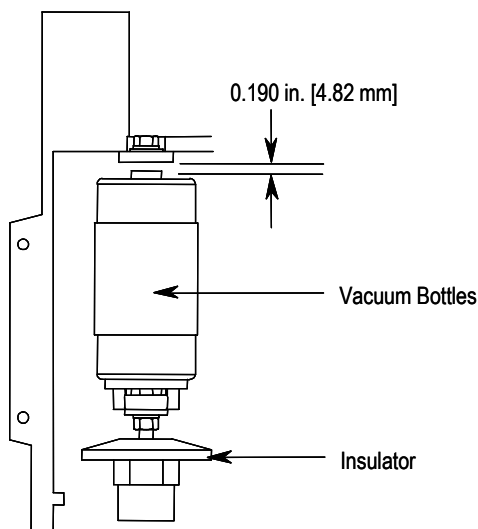

Figure 4.6 – Establishing Contact Gap
5. Install a new bottle by tilting an insulator forward and threading the bottle onto the stud (reverse of Step 3). Take care to ensure the threads are aligned as cross-threading can occur. Thread the bottle down, leaving a gap of approximately  $4.82 \text{ mm} \pm 0.25 \text{ mm}$  ( $0.190 \text{ in.} \pm 0.01 \text{ in.}$ ) between the top of the bottle and the bottom surface of the line terminal, as shown in Figure 4.6. Use inside calipers and a micrometer, or another accurate measuring tool, to set the gap. This gap is precisely calibrated later in this section. The wear indicator line on the bottom of the bottle's movable shaft must be facing forward (i.e. visible from the front of the contactor). Repeat this step for the remaining two bottles.